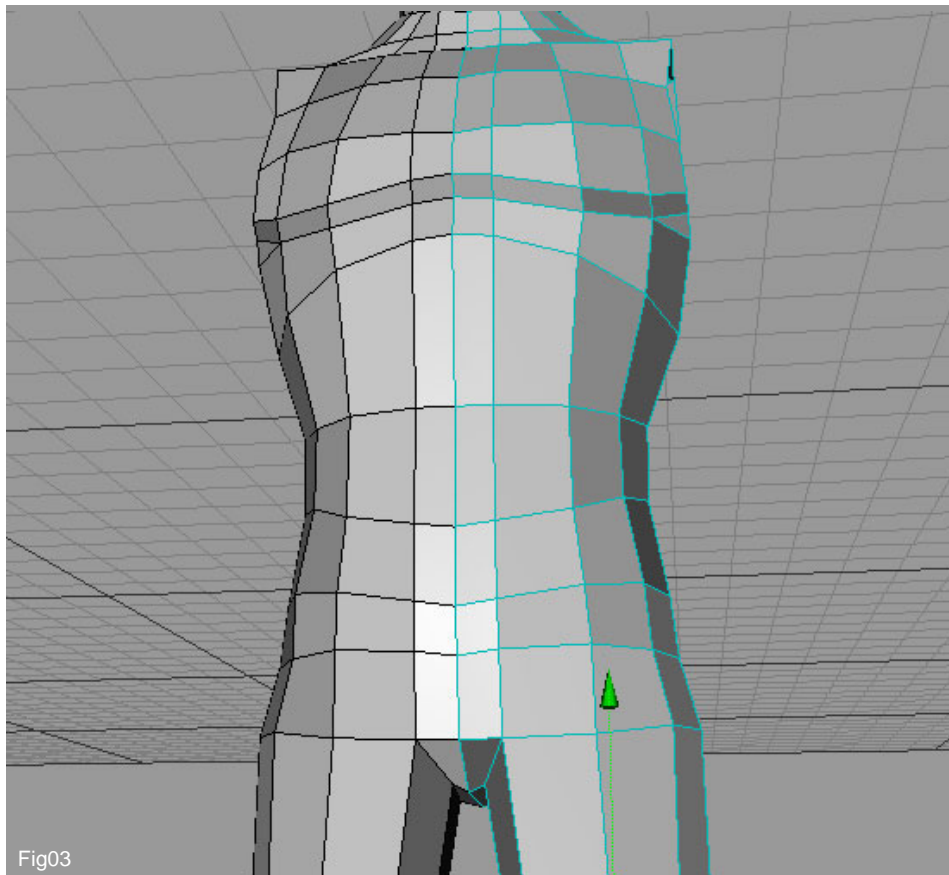

Fig03
3. Adjust the position of the points to form a decent shape and then extrude the edges, as shown in Fig03.